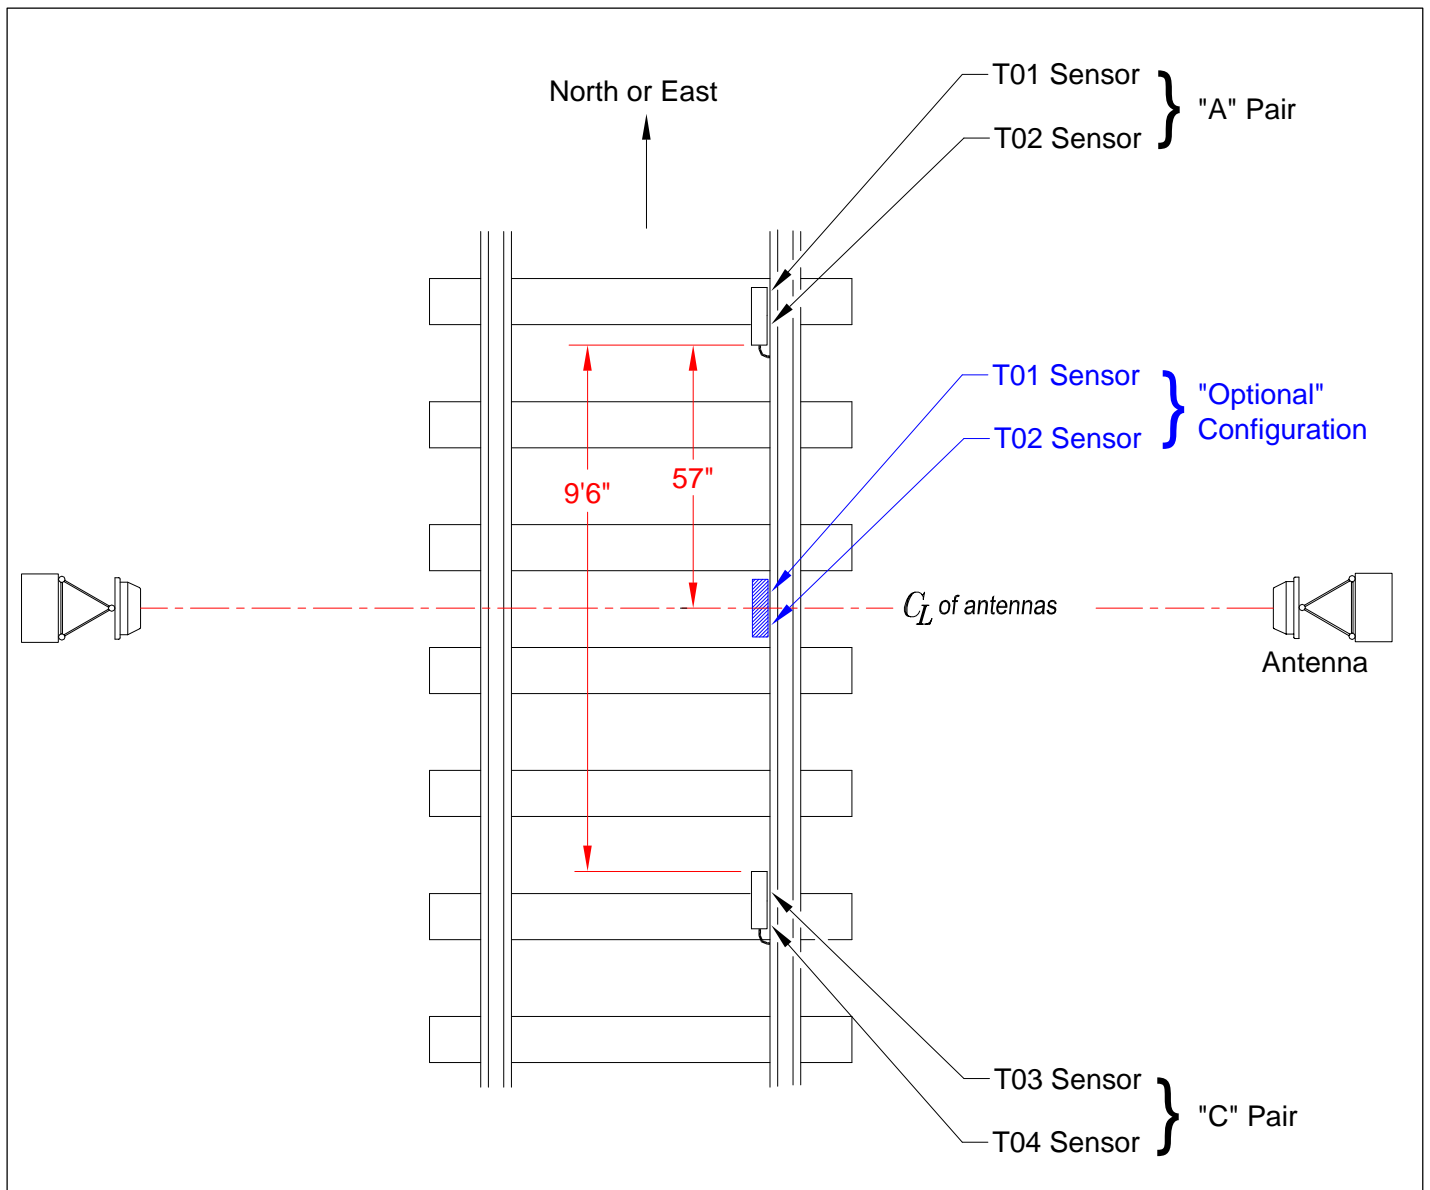
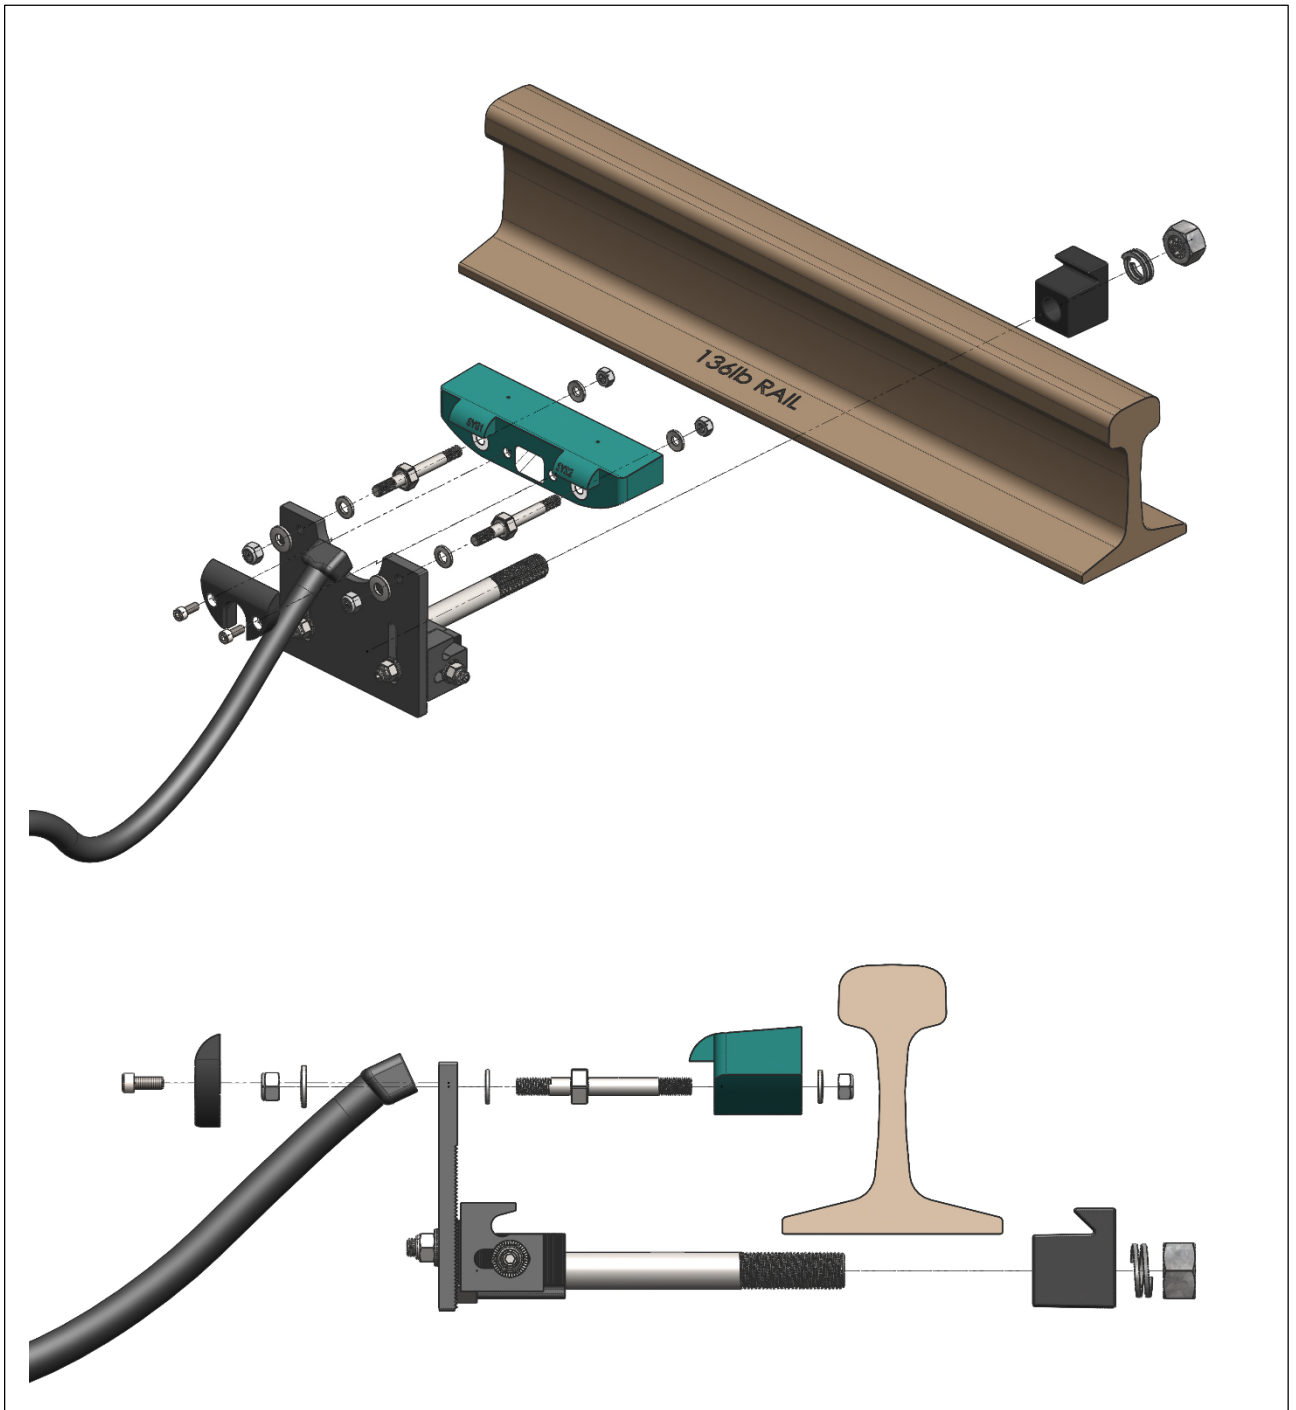
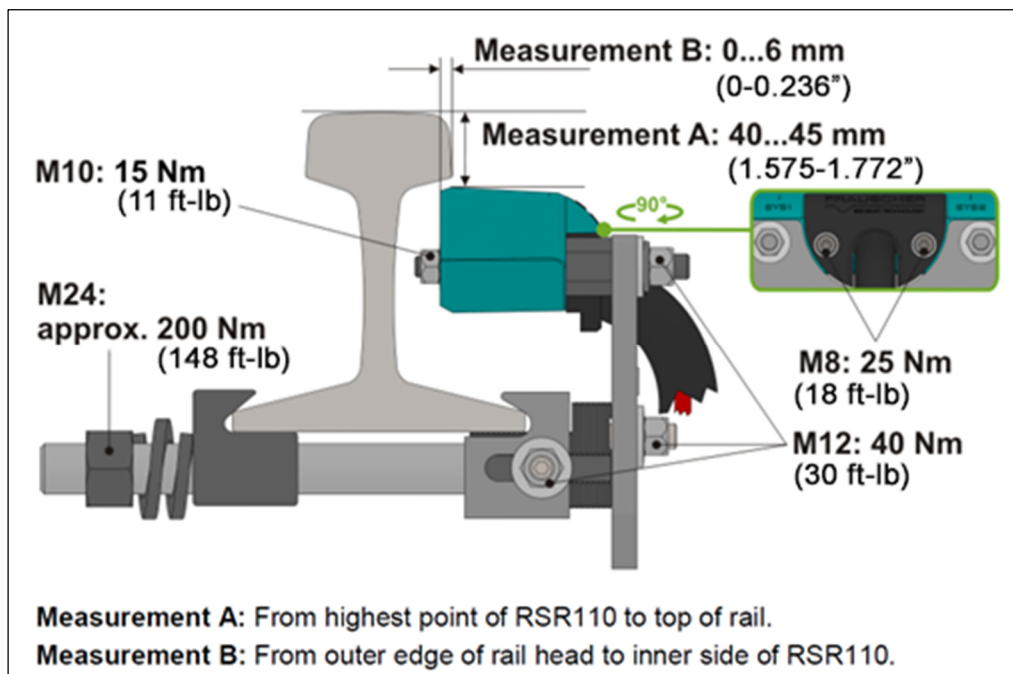

Figure 1: Typical Track Layout
Figure 2: Frauscher Assembly Exploded Views
Figure 3: Frauscher Alignment
1. Mount Frauscher wheel detectors to the rail. See Figure 1 for a typical site layout. See Figure 2 for an exploded view of the clamp assembly. See Figure 3 for alignment dimensions and torque specifications.
Another possible cause is improper alignment. A wheel detector adjusted too close to the rail can prevent successful calibration. First, verify the accuracy of the horizontal and vertical adjustments as per Figure 3 and adjust as necessary. If the wheel detector will still not calibrate, try lowering the wheel detector's vertical height by one notch (0.100 inch) on the wheel detector bracket. Each adjustment detent in the wheel detector mounting bracket represents 0.100 inch. Be aware that the bracket may rise while tightening, so recheck your measurement before continuing.